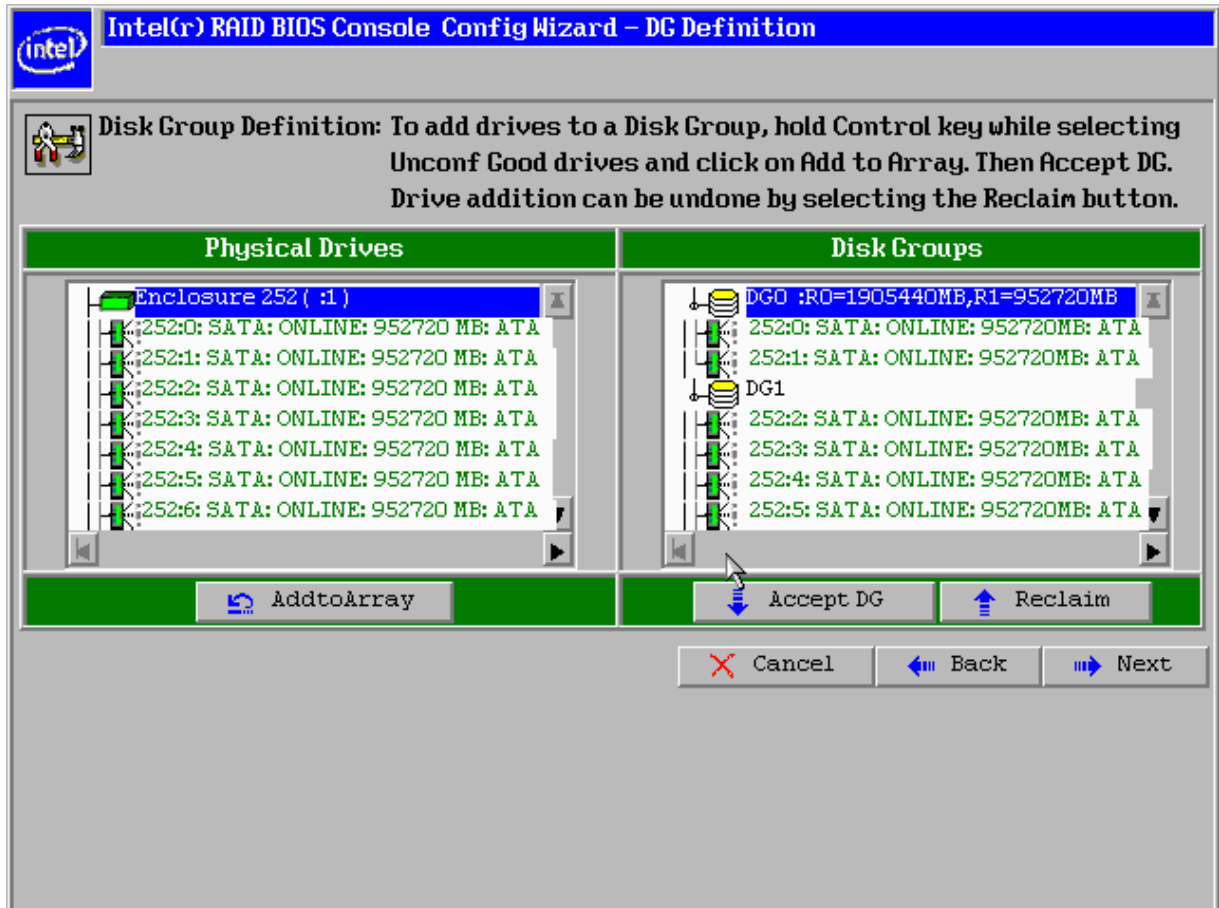

Figure 16. DG Definition Screen – Adding Devices to Device Group 1
- Hold down the **<Ctrl>** key while you select six unconfigured good hard drives in the Physical Drives panel on the left, and click AddtoArray to move the drives to a proposed drive group configuration in the Disk Groups panel on the right (see Figure 16).